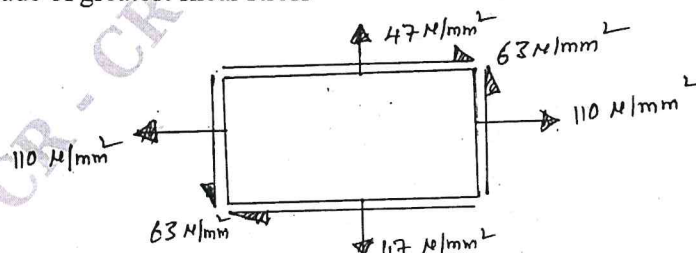

Fig.Q3(c)
c. A rectangular block of material is subjected to a tensile stress of 110 N/mm^2 on one plane and a tensile stress of 47 N/mm^2 on a plane at right angles, together with a shear stress of 63 N/mm^2 on the same planes as shown in Fig.Q3(c). Find